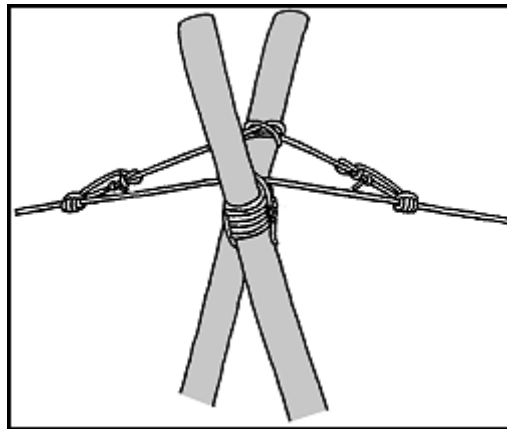

Figure 7-22. Anchoring the A-frame to the traverse rope.
(1) Place the A-frame (if needed) so that both traverse ropes run over the apex and the A-frame splits the angle formed between the near (upper) and far (lower) anchors, with the legs firmly emplaced or anchored with pitons. Ensure that the A-frame is in line with the anchors. Adjust the A-frame under the traverse ropes after tightening to firmly implant the A-frame.
(2) Tighten the installation ropes using either the transport tightening system (paragraph 7-11) or the z-pulley tightening system (paragraph 7-12).
(3) Anchor the A-frame to the traverse rope. Tie a clove hitch at the center of a sling rope. Place it over one of the poles above the apex and move down to the apex so that the locking bar of the clove hitch is to the inside of the A-frame. Secure each end of the sling rope to one of the tightened static lines with two Prusik knots—one forward and one to the rear of the A-frame on the same static line rope (Figure 7-22).